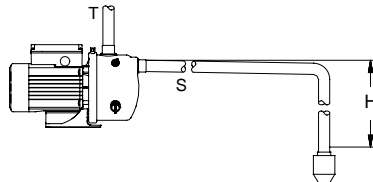

Fig. 1 Pipework connection
Connect the discharge pipe to the pump discharge port (T). See fig. 1. H = maximum 8 metres.